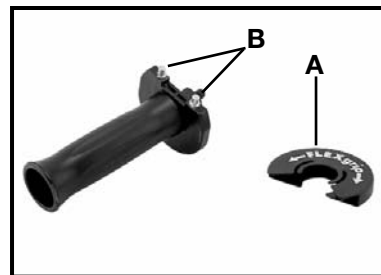

Fig. 3
NOTE: The cover of the auxiliary handle (A) Fig. 3 can be removed to expose the lugs (B) of a spindle wrench for installing and removing the grinding wheel.